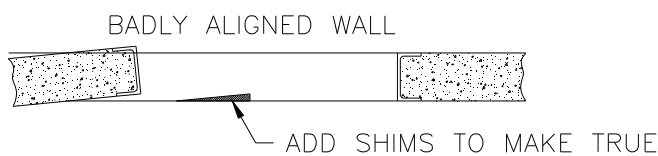

FIG. 2
- \* **If the wall is badly aligned**, shim to make true (Figure 2).